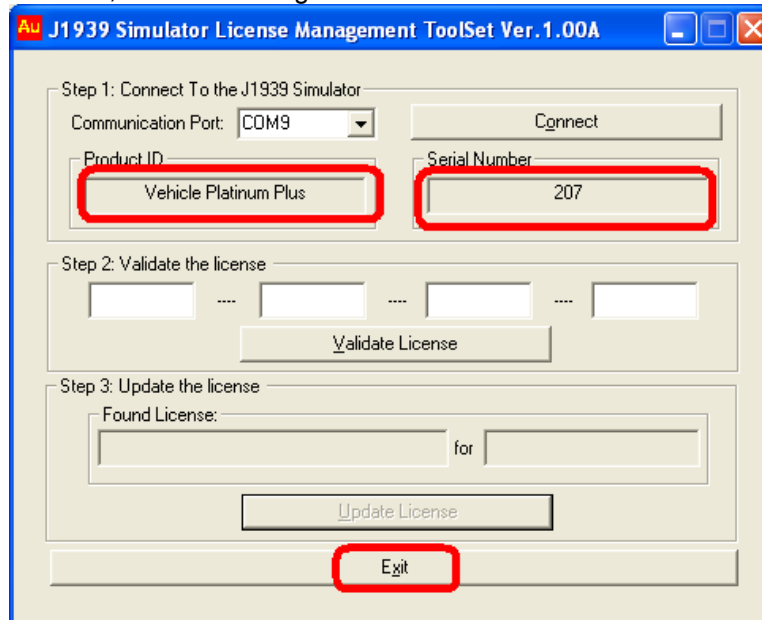

Figure B-14 Product updated to Engine premium successfully
5. When it is updated successfully, a beep will be heard. And Au J1939 Simulator License Toolset will show the new license (Engine premium in this demonstration), it means your product has been upgraded to engine premium edition successfully, click “Exit”, as shown in Figure B-14.